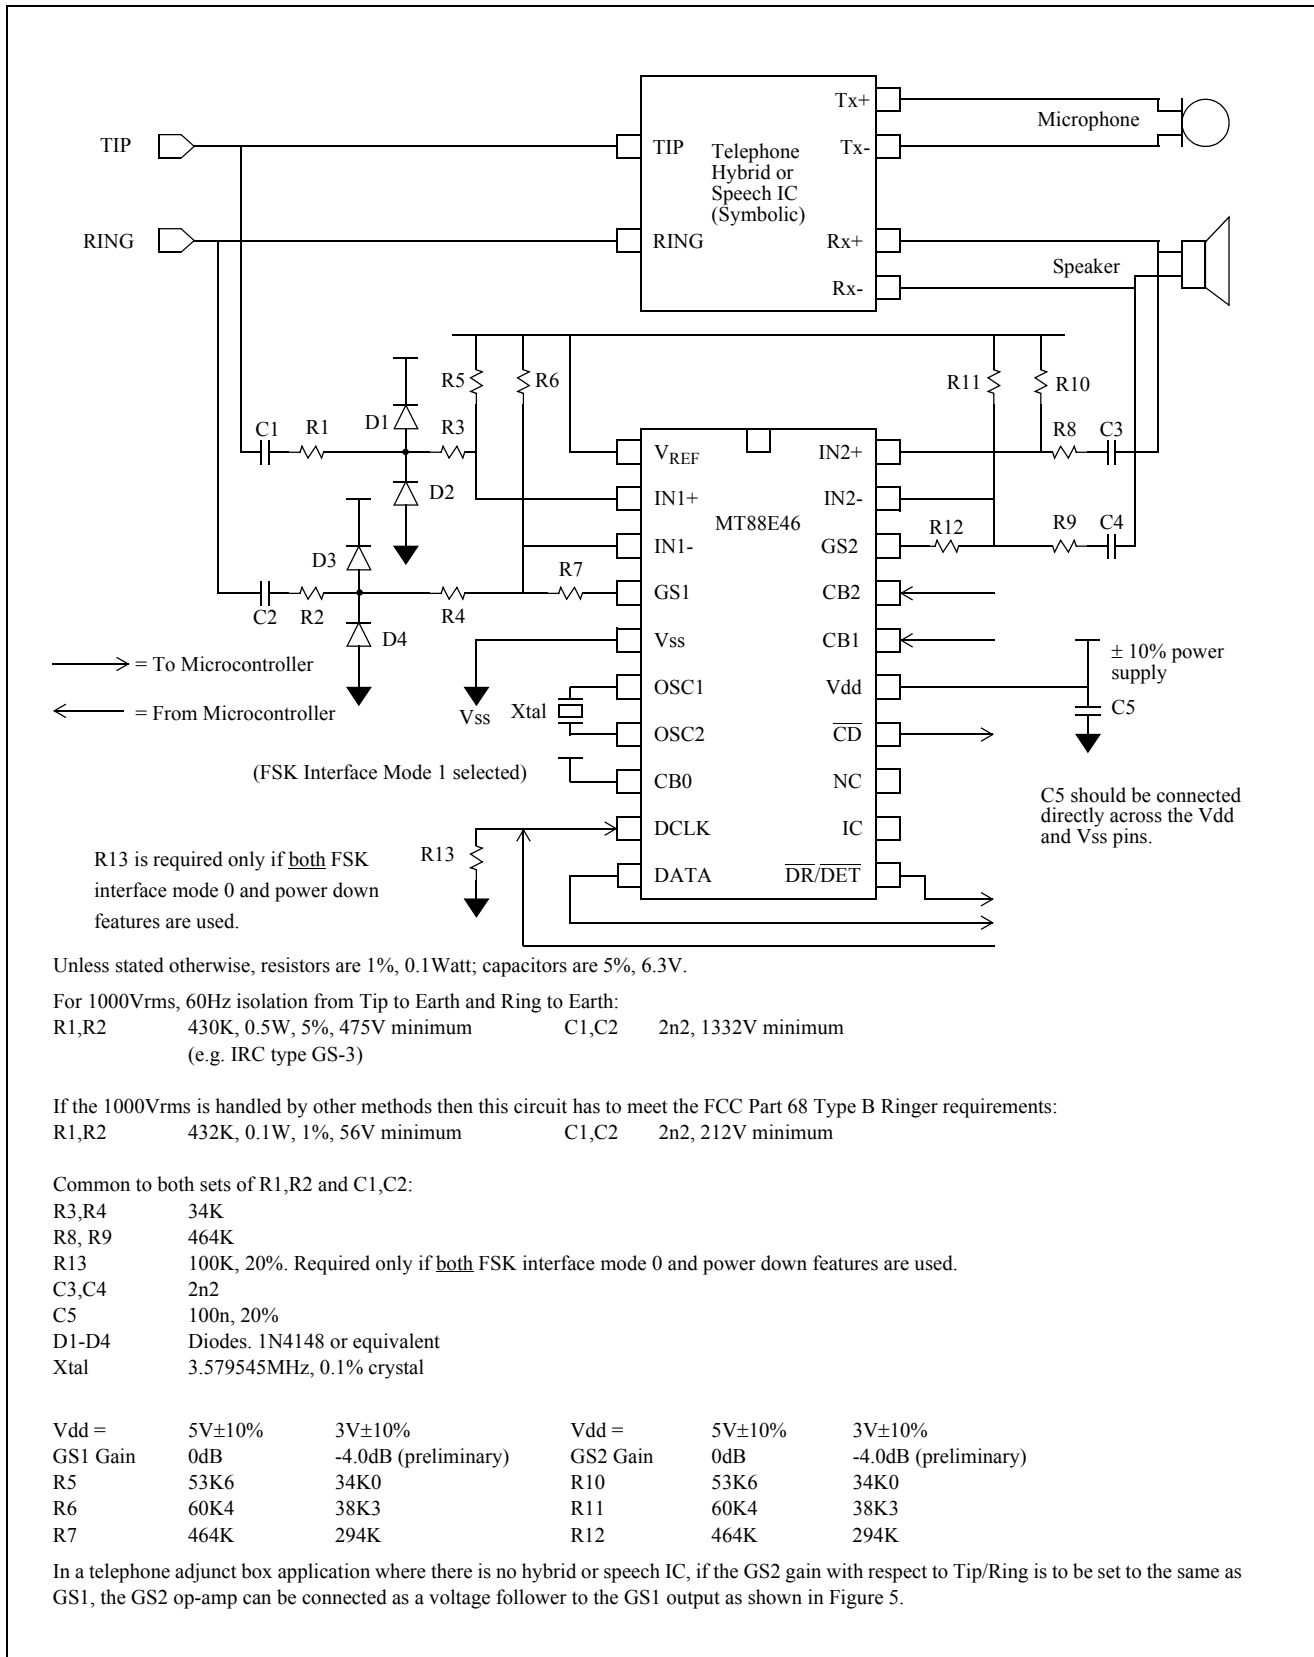

Figure 8 - Application Circuit: MEI Compatible Type 2 Telephone
The MT88E46 can be powered down to consume virtually no power supply current via a state of the CB0/1/2 pins. Momentary transition of CB0/1/2 into the power down code will not activate power down. In power down mode both input op-amps, V_{REF} and the oscillator are not operational; DCLK becomes an input pin because to select the power down state CB0 is 1 which selects FSK interface mode 1. If the application uses FSK interface mode 0 and the MT88E46 needs to be powered down, then during power down the input state of the DCLK input must be defined, for example, by a pull down resistor (R13 in Figure 8) so that the MT88E46 will draw minimal power supply current. When the MT88E46 is powered down DATA, $\overline{DR/DET}$, \overline{CD} are high.
- For the GS1 op-amp, start with the 0dB gain setting resistor values of R5_{0dB}, R6_{0dB} and R7_{0dB}. In Figure 8 they are 53K6, 60K4 and 464K respectively. Keep R1, R2, R3, R4, C1, C2 as in Figure 8 to keep the input highpass filter corner frequency constant for all gain settings.